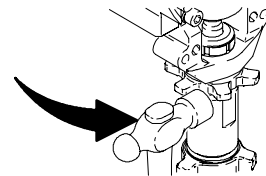

Fig. 20
3. Fig. 20. Screw locknut down onto pump until nut stops. Screw pump into bearing housing until locknut stops it. Back off pump and locknut to align pump outlet to best position of hose to filter housing (69). Tighten locknut by hand, then tighten with a hammer to approximately 75 ± 5 ft-lb (102 NSm).